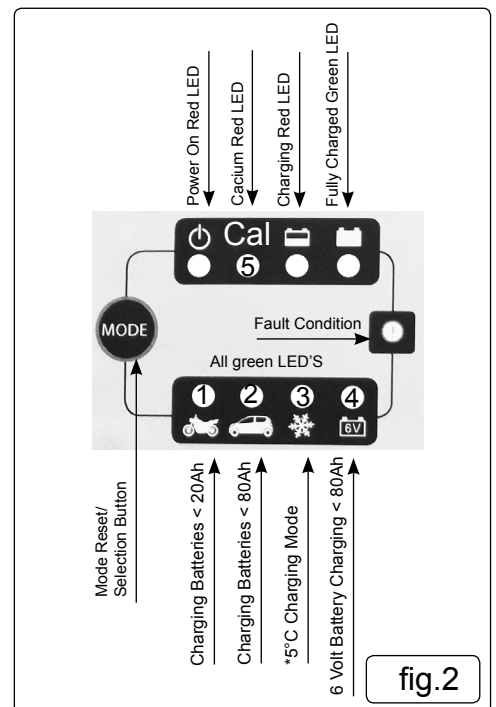

fig.2
- 4.6.1. Plug the charger into the mains power supply and switch on. The green power LED will illuminate. fig.2.